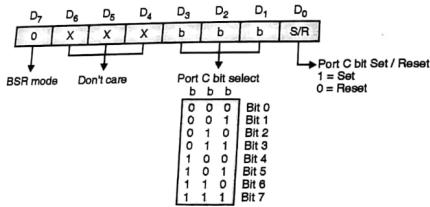

Fig. 9.10.1 : BSR control word format
- The control word format of BSR mode is as shown in Fig. 9.10.1.